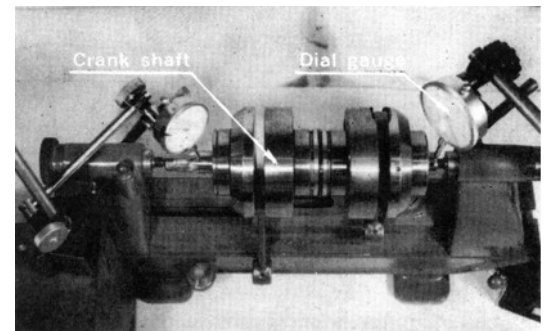

Fig. 43 Measuring crankshaft play
1. Measure crankshaft play with a dial gauge for tolerance and fit. (Fig. 43)